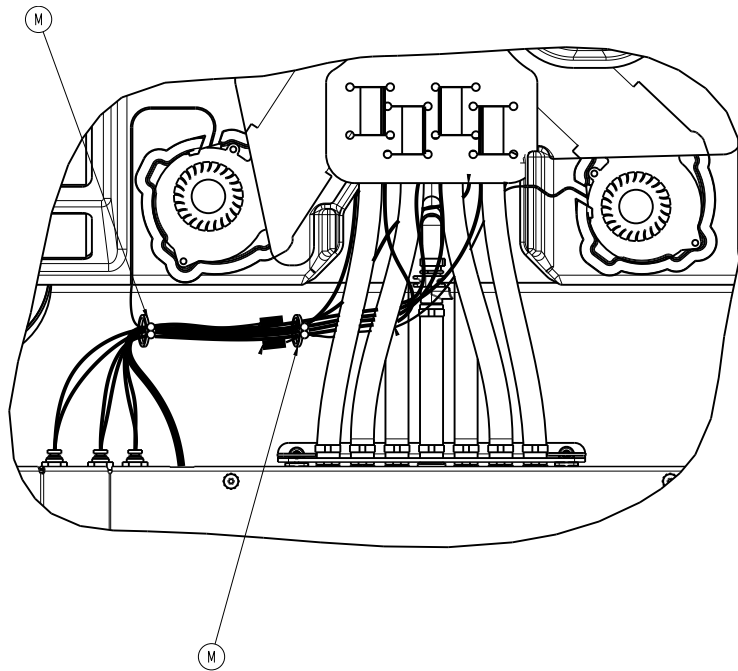

Figure 20 – Purse lock wire tie
12. Remove the two purse lock wire ties (M) (Figure 20). Save the purse lock wire ties.